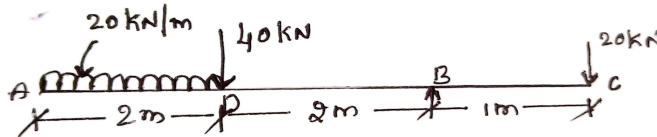

Fig. Q 4 (b)
b. Draw BMD and SFD for the overhanging beam shown in Fig. Q 4(b). 14 (3 : 2 : 2.2.1)